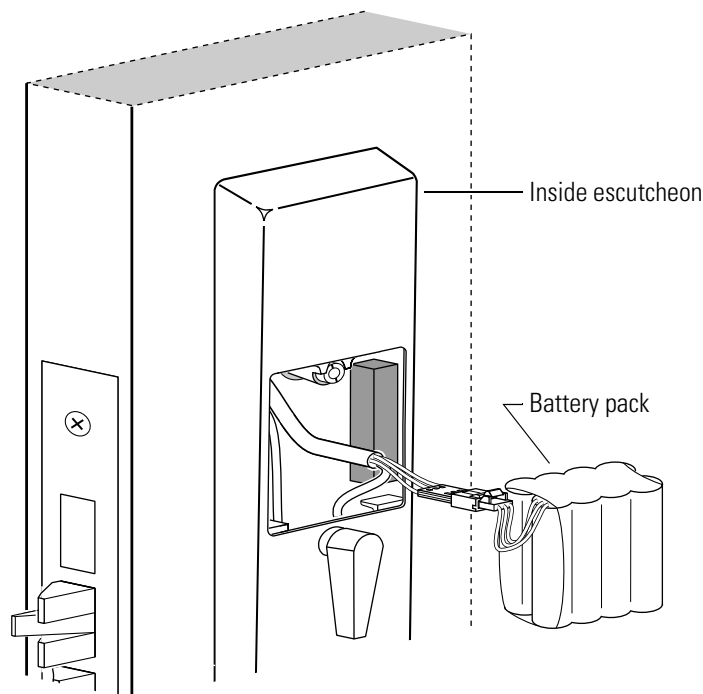

Figure 11.5 Reinstalling the battery pack (eight-cell pack shown)
1. Connect the battery pack to the battery connector on the wire harness inside the battery compartment. See Figure 11.5.